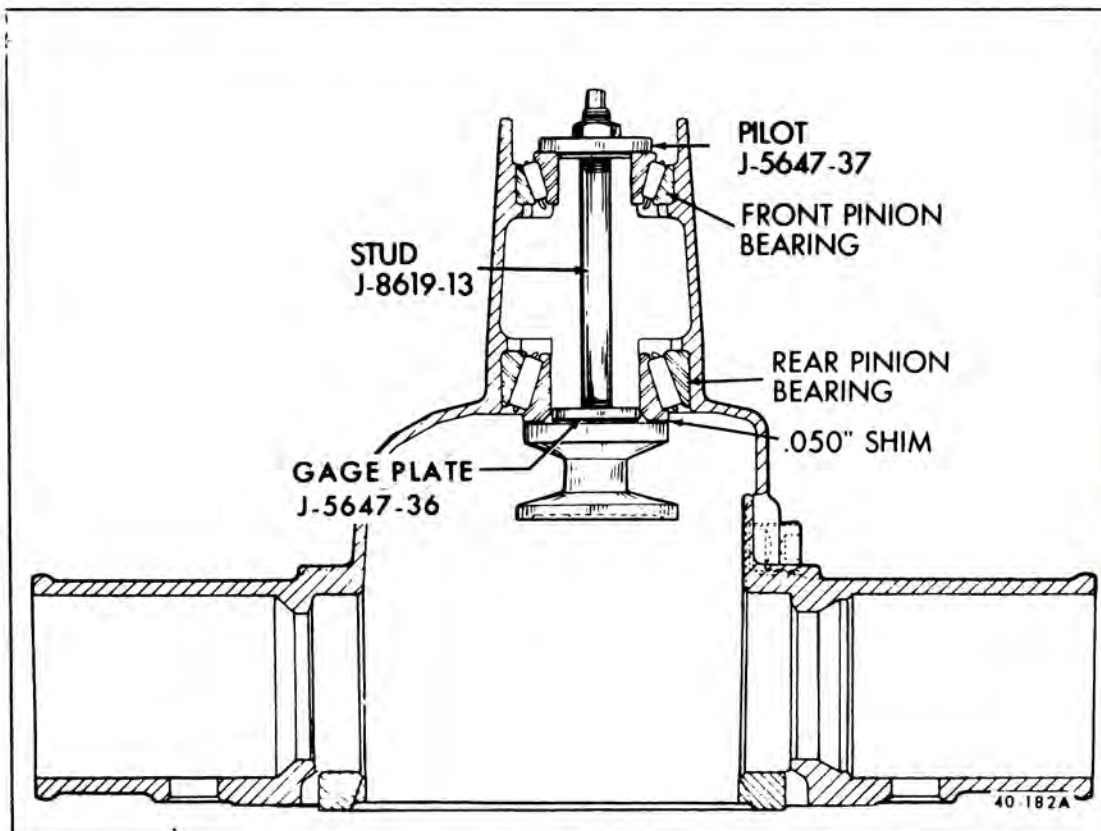

Figure 40-167—Installing Gage Plate in Carrier
2. Lubricate front and rear pinion bearings which will be used in final reassembly and position them in their respective races in the carrier. Thread Stud J-8619-13 into Gage Plate J-5647-36. With bearings held in place in races, install a .050" shim and gage plate and stud assembly on rear pinion bearing inner race. Install Pilot J-5647-37 on front pinion bearing with small diameter on raised portion of bearing race. See Figure 40-167.